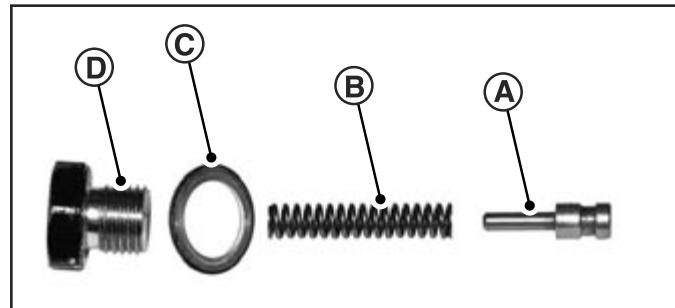

Fig. 13, Relief Valve Assembly
1. Disassemble PTO relief valve. (Fig. 13)
3. Install spring (B), gasket (C), relief valve plunger (A), and plug (D) in PTO cover. (Fig. 13)